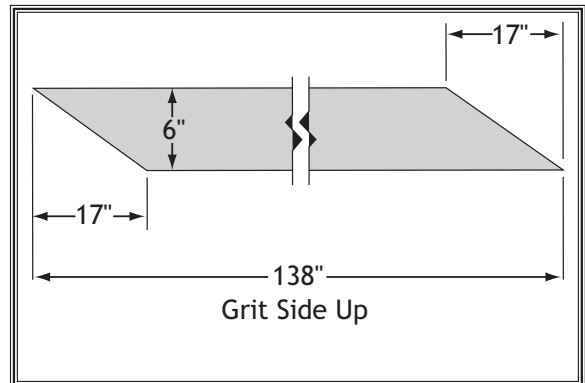

Figure 30. Sandpaper pattern.
6. Unwind the old sandpaper and use it as a pattern, or use the pattern in **Figure 30** to cut the sandpaper to the necessary shape, or see **Figure 31** if using a different width of sandpaper.